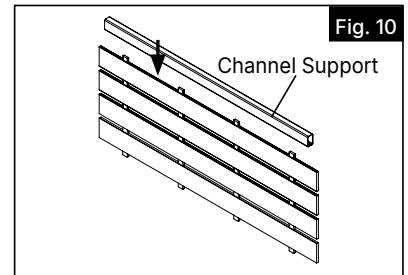

Fig. 10
- f. Attach channel support to the top of the Decorative Screen Panel (Fig. 10).